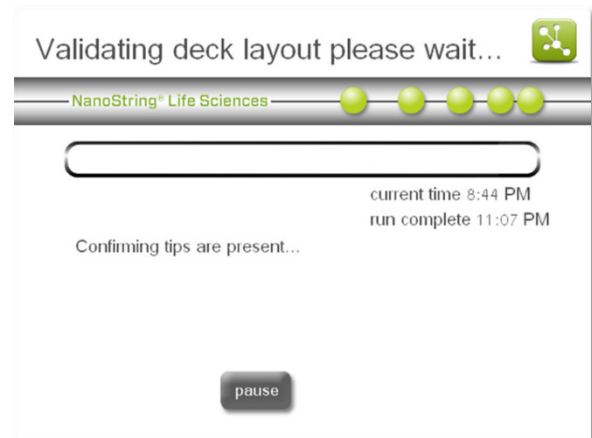

Figure 34: The 'Validating deck layout' screen.
17. The 'Validating deck layout' screen will appear (Figure 34).